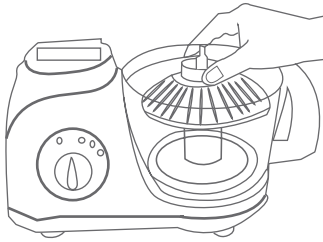
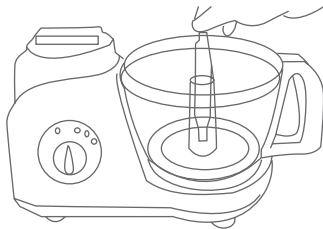

Fig. 6
Fig. 7
1. With the processor bowl already fitted place the Egg whisk over the hexagonal drive shaft of the processor lightly turn the accessories until it engages onto the drive and the Egg whisk are close to the bottom of the bowl and level. (Fig.6), Then place the cover on the top of the bowl in way before plugging the processor in ensure. (Fig.7)